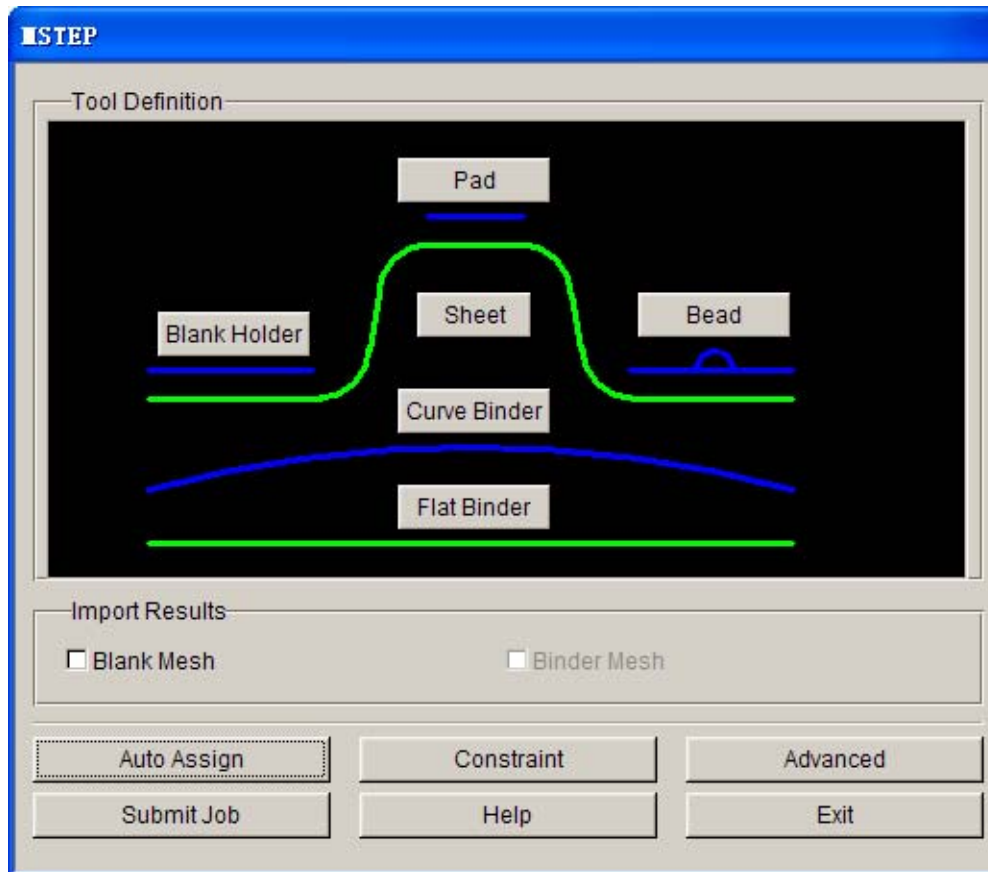

Figure 3.21: MSTEP GUI after sheet definition
- 9) Click “OK” in the Define Blank dialogue window to return to the MSTEP dialogue window, user can find the outline representing the sheet metal in the dialogue window has changed from red into green, which indicates the define of sheet-metal tool has been completed. See figure 3.21.